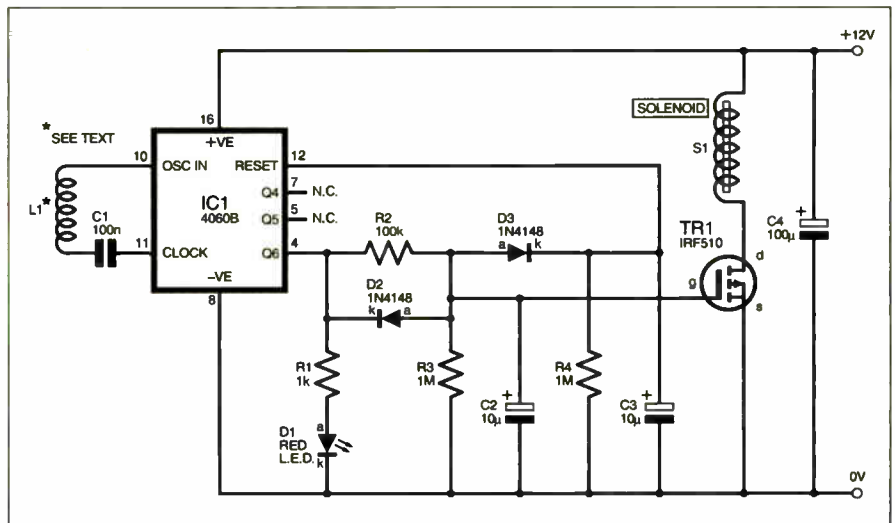
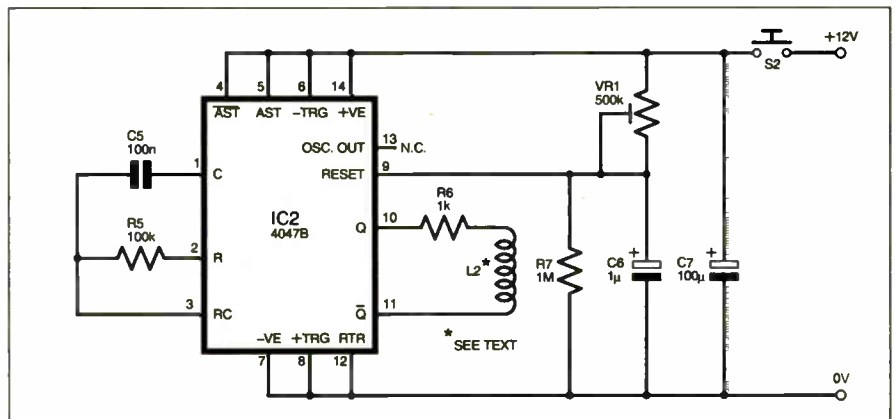

Fig.2. Lock circuit diagram for the Multi-Level Lock
Fig.3. Key circuit diagram for Multi-Level Lock
**T**HE two circuit diagrams shown in Fig.2 and Fig.3 are suitable for forming the basis of an inductively coupled Lock and Key set-up. In their present form they are merely intended as a demonstration of the basic principle, with a single "channel" for one door. Potentially, however, they form the basis of a fairly sophisticated lock system with several levels of operation.
Circuit diagram Fig.2 represents the Lock, which momentarily closes a solenoid, thus opening a door. This is based on a CMOS 4060 oscillator/divider, IC1.
The Key is represented by circuit diagram Fig.3. This emits electromagnetic pulses at  $f=1/4.4 \times C5 \times C5$  (about 23kHz) when switch S2 pushbutton is pressed. As it does so, capacitor C6 begins to charge through preset VR1, so that if VR1 is correctly adjusted, IC2 resets and the pulse-train stops as IC1 output Q6 goes "high". These pulses are transmitted through inductive coupling from coil L2 - Key (Fig.3) to coil L1 - Lock (Fig.2).